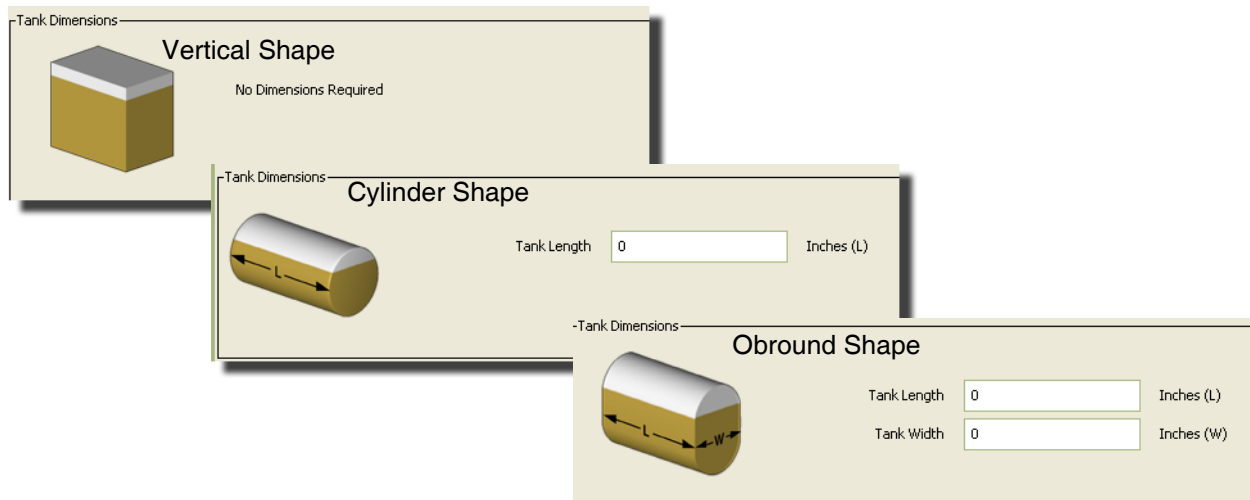

FIG. 115
- **Tank Shape:** select either vertical (default), cylinder or obround. Additional dimension information is required for Cylinder and Obround shaped tanks (See FIG. 115).